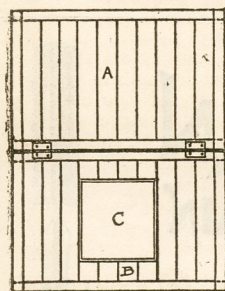
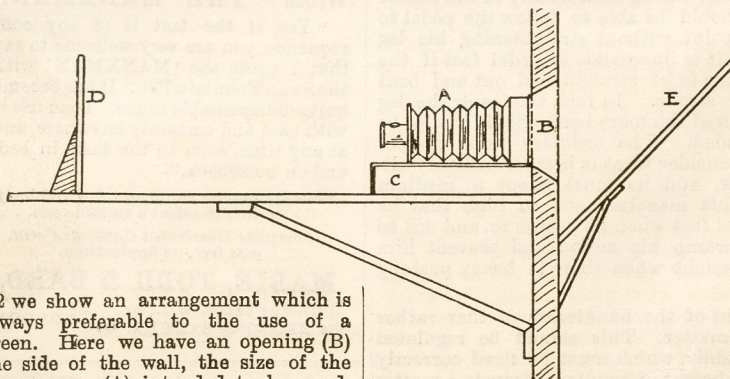
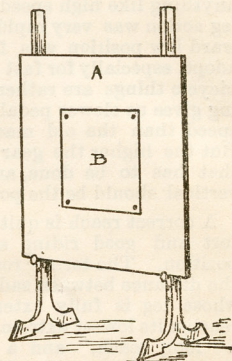

FIG. 1.
FIG. 2.
FIG. 3.
FOLLOWING up our last chapter, we now give sketches of necessary arrangements for daylight enlarging. Fig. 1 shows a Window Frame Screen. This will be best made in two parts, A and B, and hinged. It can be covered with black twill, ruby fabric, or other material that will effectually keep out daylight. But if the worker has a room at his disposal for photographic purposes, we would advise the filling of the frame with thin wainscot boards, which are tongued and grooved, and may be easily put together. The frame itself may be made of $2\frac{1}{2}$ by $\frac{1}{2}$ -inch or 2 by $\frac{3}{4}$ -inch wood,
backed into it as shown in Fig. 2.
In Fig. 2 we show an arrangement which is in many ways preferable to the use of a window screen. Here we have an opening (B) made in the side of the wall, the size of the back of the camera (A) intended to be used. C shows an arrangement upon which the camera stands, and also a board upon which the easel (D) may be moved. It will be noticed that the camera is raised considerably above this board in order to admit of centreing upon the easel. We explained in the last chapter that this board might be dispensed with, and an easel such as shown in Fig. 3 used in place of it. By shortening the bracket under the board it is quite
possible to have the board hinged, but a bolt will then be required to make it rigid when used at its full length. In the sketch Fig. 2, E shows the reflector and the angle at which it should be placed. In the case of the blocked window (Fig. 1) it will be best to use a reflector.
If the window is entirely blocked the worker should supply himself with a non-actinic lantern—ruby or orange—and place it in such a position that it will give a well distributed light in the room. This done, place the negative to be enlarged in the frame on the screen (C, Fig. 1) or in the dark slide of the camera, *upside down*, with the glass side towards the light and the film towards the room. See that no extraneous light can get in round the back of the camera, and cover the juncture with a piece of velvet or soft black twill.
Place the easel exactly opposite the lens, and upon the easel (D, Fig. 2) pin a piece of stout white paper (as shown at B, Fig. 3) the same size as the bromide paper intended to be used. If an enlarged negative is to be made use a spoilt plate that has not been developed, or face it with thin white paper. Rest this on drawing pins. Back out the lens and travel the easel backward or forward until the image from the negative is sharp and of the size desired, *i.e.*, covers the paper or plate on the easel. When this is done,